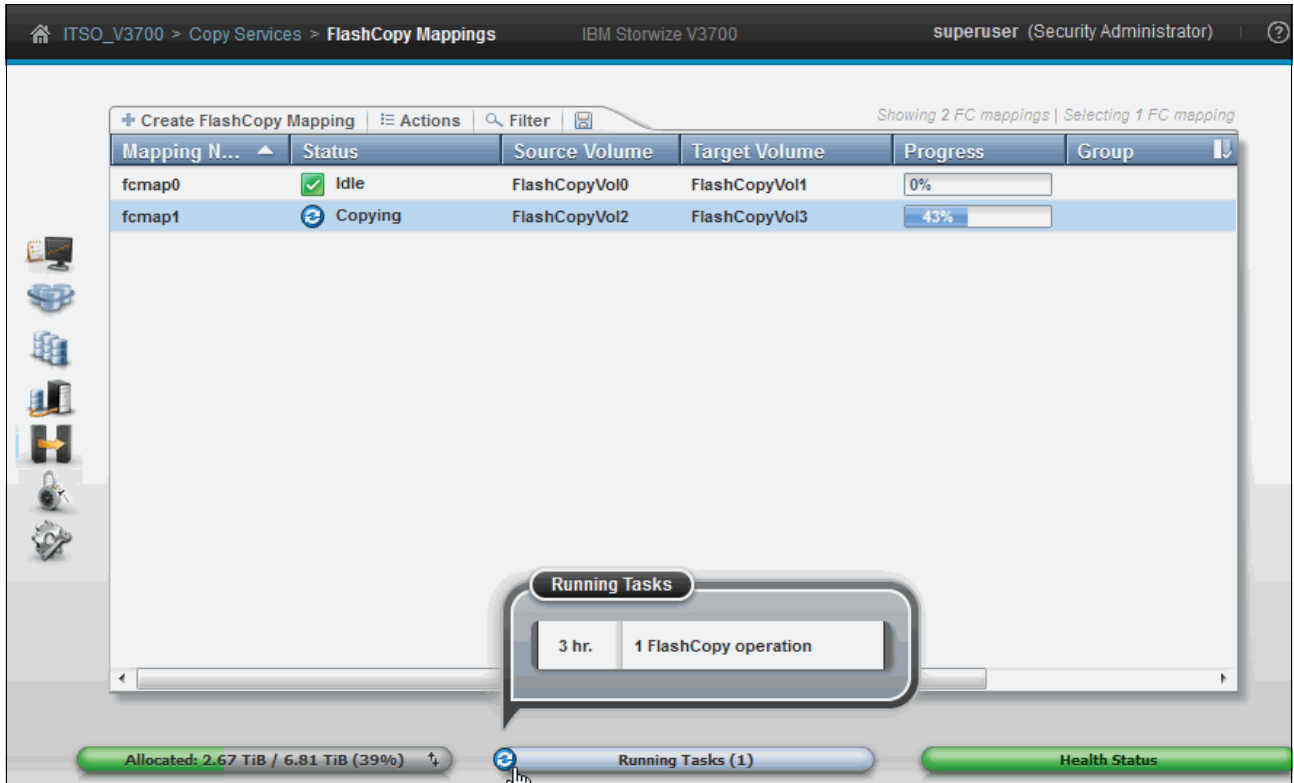

Figure 10-12 Running Tasks bar: FlashCopy operations
4. The copy progress can also be found under the Running Tasks status indicator, as shown in Figure 10-12.